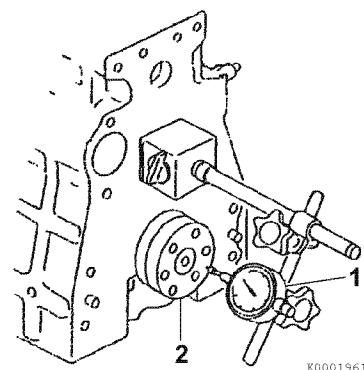

Figure 6-57
- **Method A:** Install a dial gauge (Figure 6-57, (1)) on the cylinder block. Move the crankshaft (Figure 6-57, (2)) in and out to measure the end play. Record the measurement.